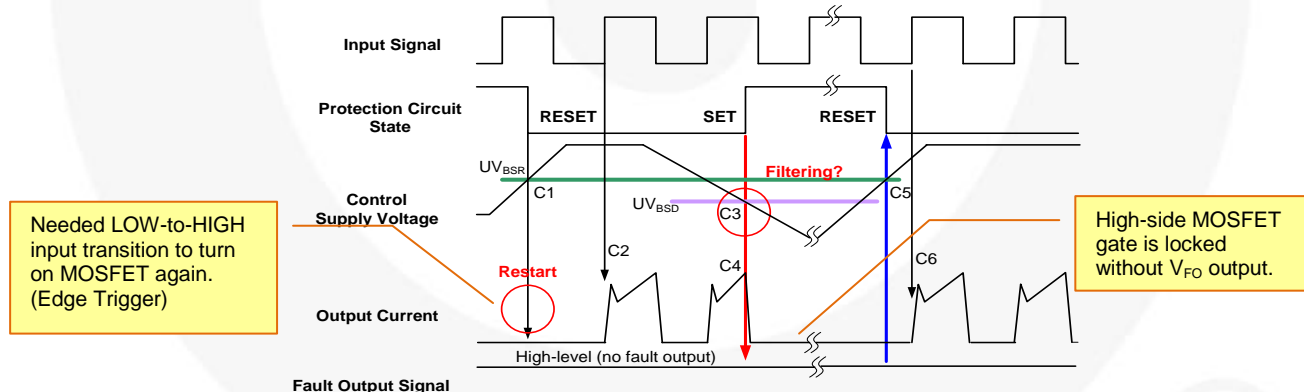

Figure 11. Timing Chart of High-Side Under-Voltage Protection Function
The HVIC has an under-voltage lockout function to protect the high-side MOSFET from insufficient gate driving voltage. A timing chart for this protection is shown in Figure 11. A fault-out (FO) alarm is not given for low HVIC bias conditions.